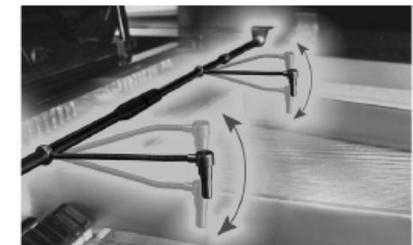

Figure 12. Adjusting the Microphone Height
10. The flex arms also allow you to adjust the height of the microphone heads as shown in Figure 12. It is suggested that you place the microphone heads two to three inches above the piano strings.